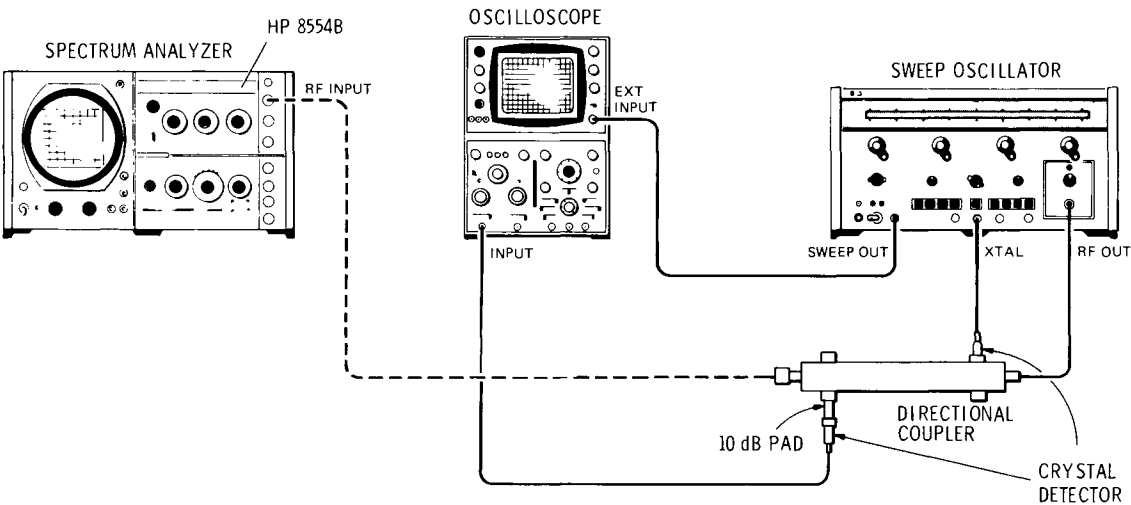

Figure 4-1. Return Loss Test Setup
1. Connect the test setup as shown in Figure 4-1 and make the following control settings: